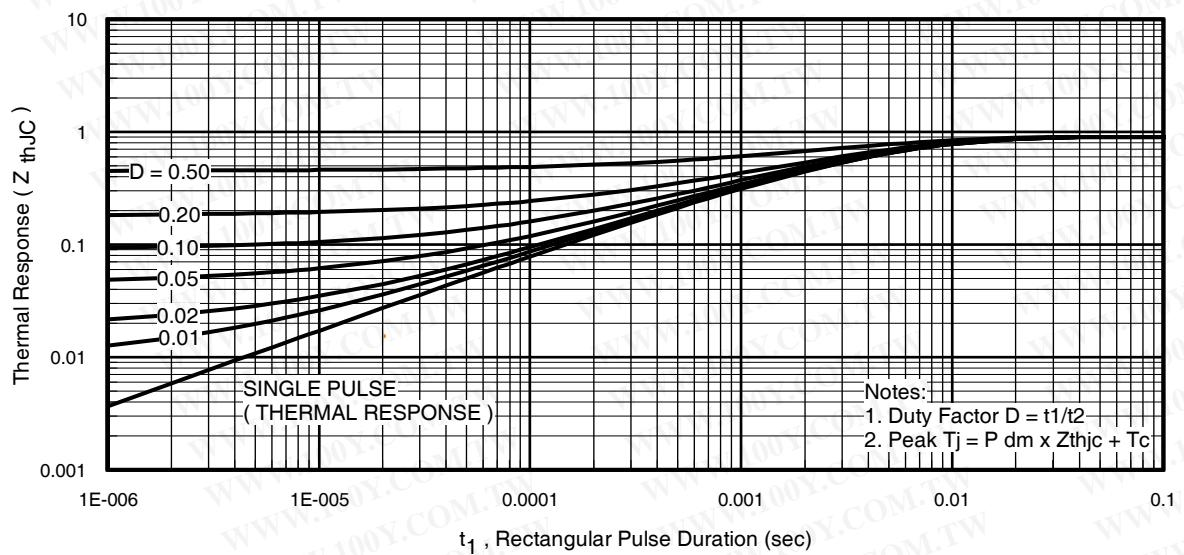
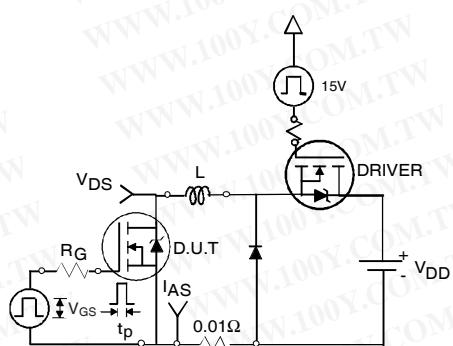

Fig 11. Maximum Effective Transient Thermal Impedance, Junction-to-Case
Fig 12a. Unclamped Inductive Test Circuit
- ① Repetitive rating; pulse width limited by max. junction temperature. (See fig. 11).
- ② Limited by $T_{J\text{max}}$, starting $T_J = 25^\circ\text{C}$, $L = 0.12\text{mH}$, $R_G = 25\Omega$, $I_{AS} = 53\text{A}$, $V_{GS} = 10\text{V}$. Part not recommended for use above this value.
- ③ $I_{SD} \leq 53\text{A}$, $di/dt \leq 420\text{A}/\mu\text{s}$, $V_{DD} \leq V_{(\text{BR})\text{DSS}}$, $T_J \leq 175^\circ\text{C}$.
- ④ Pulse width $\leq 1.0\text{ms}$; duty cycle $\leq 2\%$.
- ⑤ $C_{\text{oss eff.}}$ is a fixed capacitance that gives the same charging time as C_{oss} while V_{DS} is rising from 0 to 80% V_{DS} .
- ⑥ Limited by $T_{J\text{max}}$, see Fig.12a, 12b, 15, 16 for typical repetitive avalanche performance.
- ⑦ This value determined from sample failure population. 100% tested to this value in production.
- ⑧ This is applied to D²Pak, when mounted on 1" square PCB (FR-4 or G-10 Material). For recommended footprint and soldering techniques refer to application note #AN-994.
3. Equation below based on circuit and waveforms shown in Figures 12a, 12b.
- $Z_{thJC}(D, t_{av})$ = Transient thermal resistance, see figure 11)